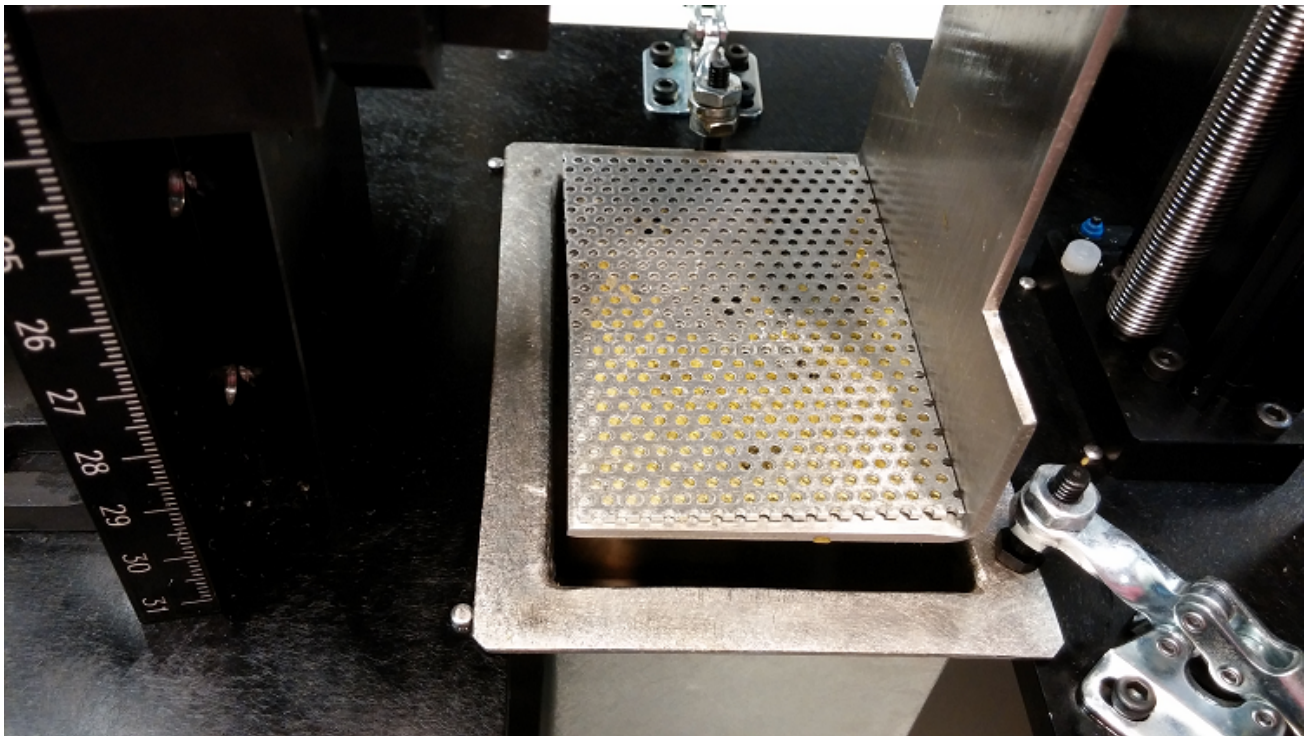

Figure 3-16. Perforated Aluminum Build Plate In Place
- Place a piece of perforated aluminum on the build platform, as shown in Figure 3-16. This step can be skipped IF the build platform is created out of aluminum. The photo-resin from www.buy3DInk.com, tested during this design, had very poor adhesion to stainless steel.